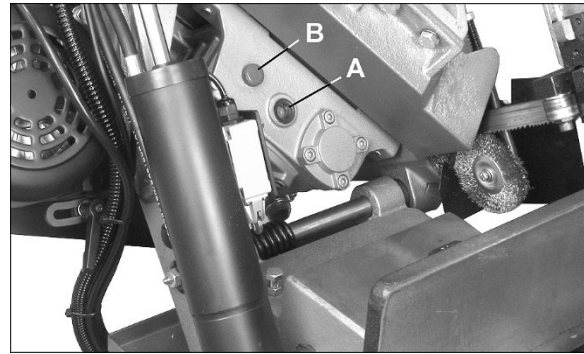

Figure 11-2: gear box fill hole and sight glass
To check gear box oil level, place bow in down position and wait a few moments for oil to settle. Check level in sight glass on side of gear casing (A, Figure 11-2). Oil level must be above red dot in middle of sight glass.
4. Remove fill plug (B, Figure 11-2) and insert approximately 850 mL (1/4 gal.) of Mobil® SHC Gear Oil 460, or equivalent.